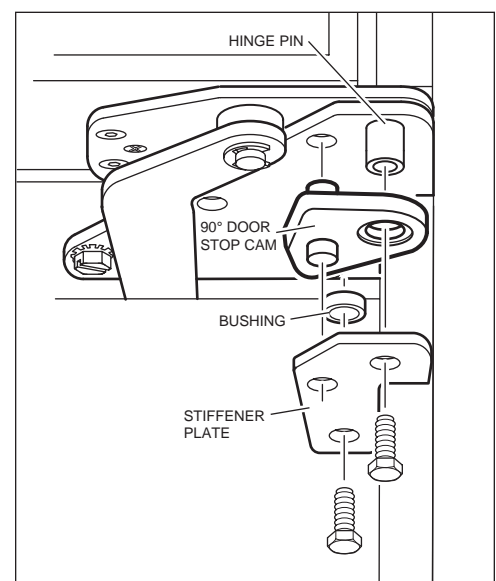

Figure 2-15. 90° Stop Cam
- b. Place door stop cam up over hinge pin, making sure stub on cam fits into hole in lower cabinet hinge (See Figure 2-15).
- c. Reinstall bushing, stiffener plate and bolts onto lower cabinet hinge (See Figure 2-15).